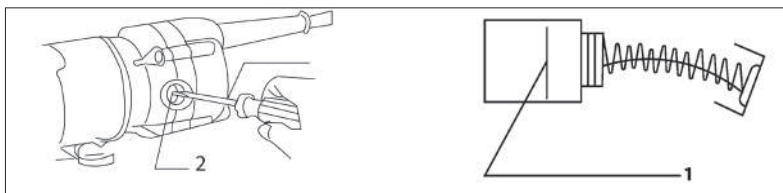

Fig. 17
- b. Carbon brushes which are worn out (burned, broken or shorter than limited length see Fig.17) have to be replaced by new ones.